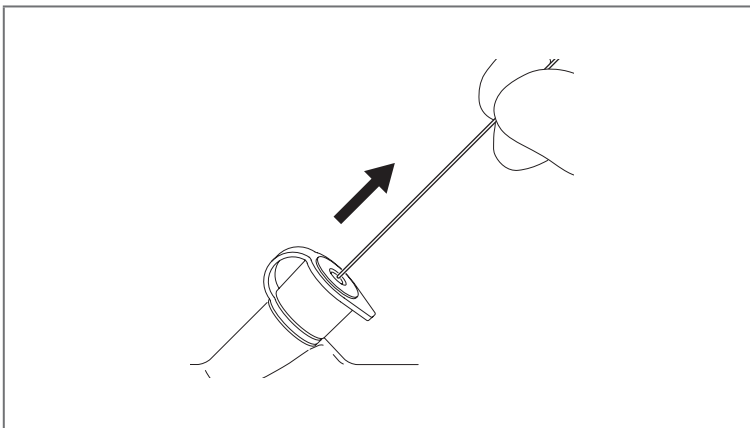

Figure 4.8
2. Slowly withdraw the endoscopic device in a straight direction against the inlet seal. (See Figure 4.8)